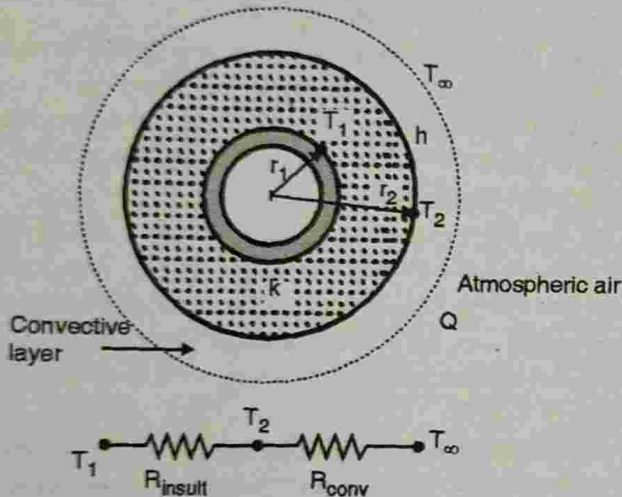

Fig. 2.10.2 : Critical thickness
- Let the temperature of outside surface of steel tube be T_1 , conductivity of insulation be k (W/mK) and let this insulation be exposed to atmospheric air at temperature T_∞ with convective heat transfer coefficient as h (W/m²K) and length of tube L meters. Refer Fig. 2.10.2.